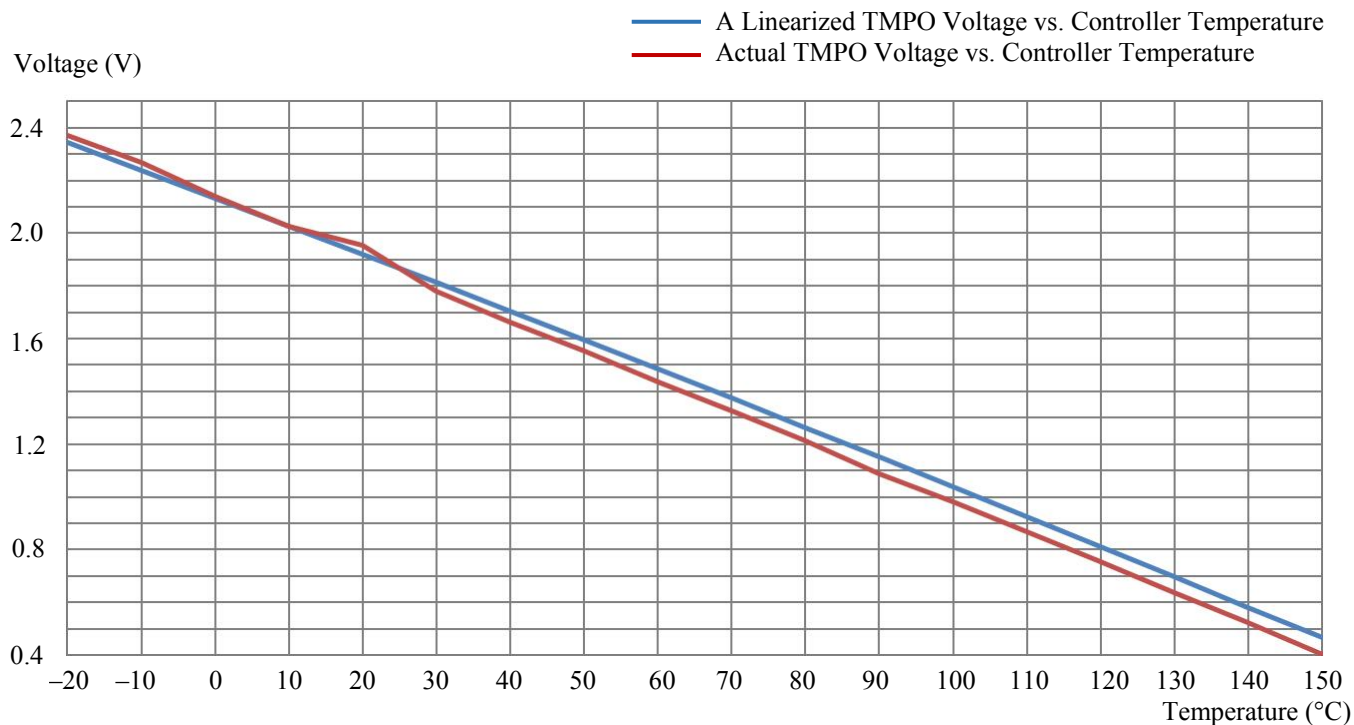

Figure 14. Controller Internal Temperature vs. TMPO Voltage
Within the most commonly used temperature range of between $0^{\circ}C$ to $100^{\circ}C$, the maximum error occurs at about 1.5V, at which the temperature error between the calculated data by using the formula (1) and the approximated data obtained by using the linear equation (2) is about $0.4^{\circ}C$, with the linear data being a little lower. The curves of the 2 sets of the data are plotted in Figure 14.